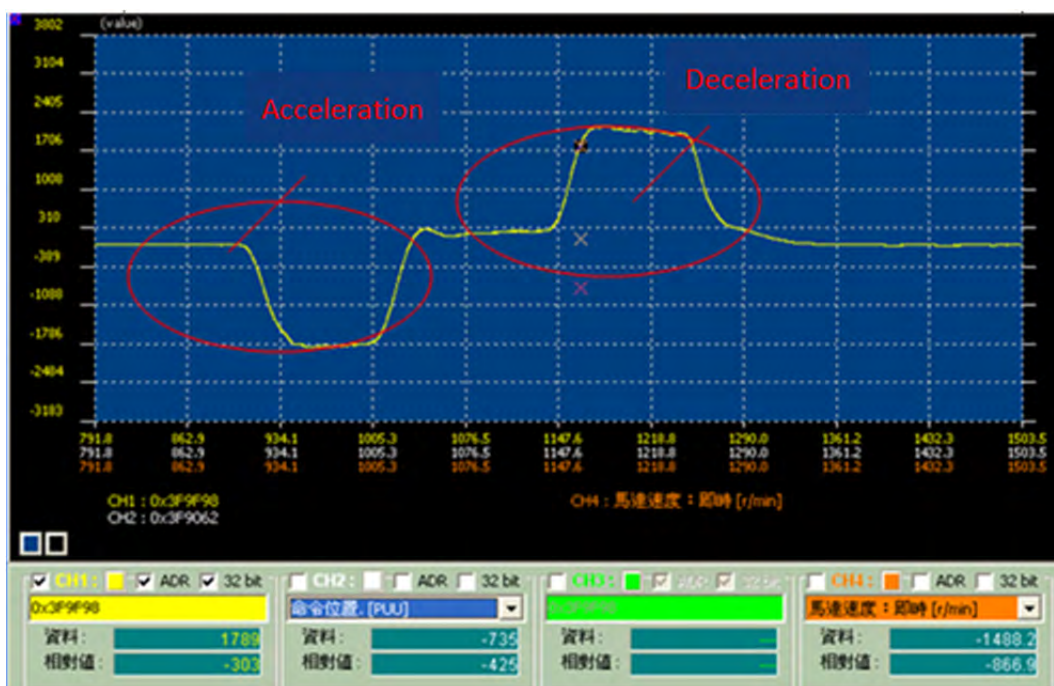

Figure 3.5.16 Monitoring Position Deviation of Gantry
2. After setting the bandwidth to a proper value (adjust from small to large), let host controller issue position commands and observe the position deviation and synchronization of two axes via PC scope. Same as the setting in figure 3.5.16, select CH1, ADR, and 32 bit and then enter address 0x3F9F98; this would be the position deviation between both axes and the unit is pulse (using full closed-loop resolution P1-72 as a basis). If the deviation of two axes exceeds the setting value, alarm will occur. In general, there is no chance that the loading conditions of two axes are exactly identical, the acceleration/deceleration process will thus leading to a rather large position deviation.